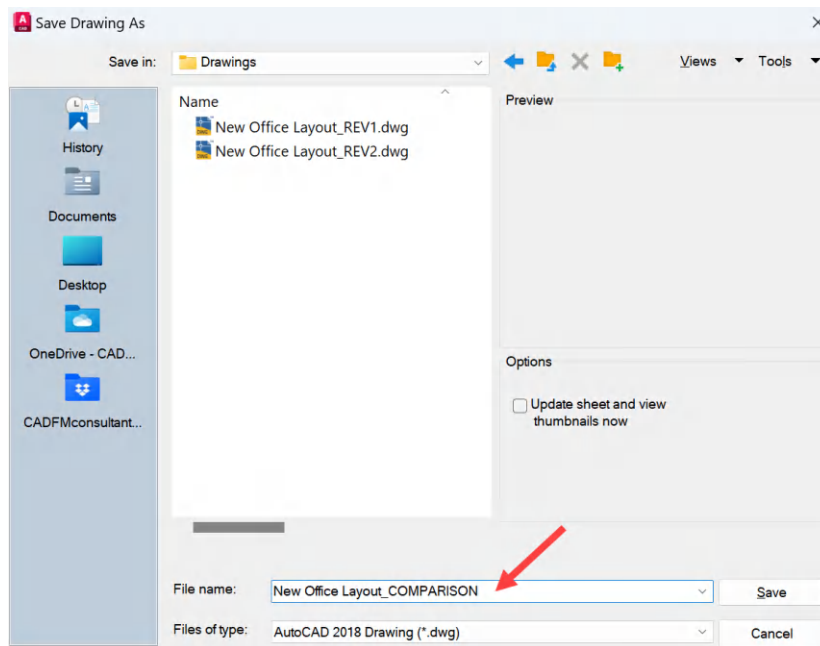

Figure 14.13: The Save Drawing As dialog box
7. You will be prompted to save your snapshot drawing in the **Save Drawing As** dialog box, as shown in *Figure 14.13*. The snapshot drawing will be named `New Office Layout_COMPARISON.dwg`. Save it in the same location as the two compared drawings.